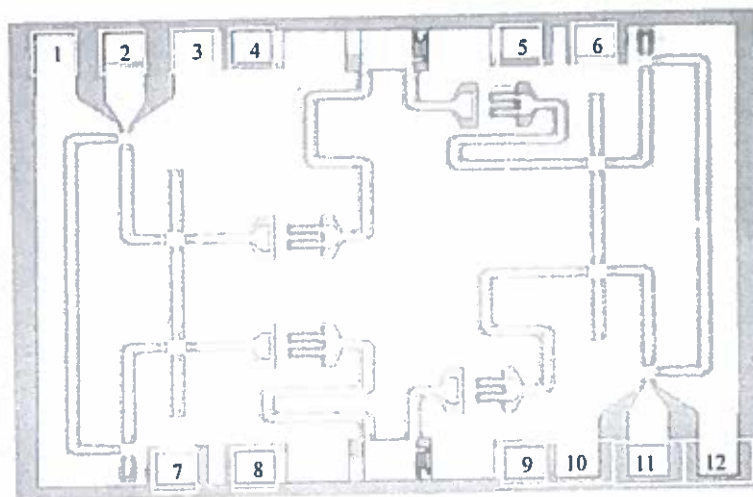

Figure 3.1 Photograph of an MMIC
- f) Figure 3.1 shows the photograph of an MMIC.